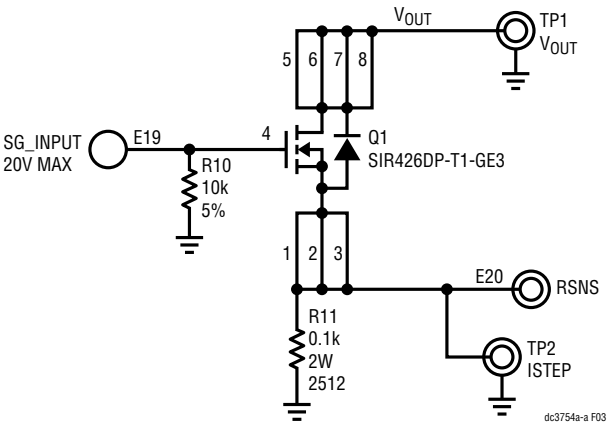

Figure 3. Optional Transient Response Circuit
15. Measure the RSNS voltage to observe the current,  $V_{RSNS}/100m\Omega$ . Adjust the amplitude of the pulse to provide the desired transient. Adjust the rising and falling edge of the pulse to provide the desired ramp rate. Refer to the following equations and the optional transient response circuit shown in Figure 3: